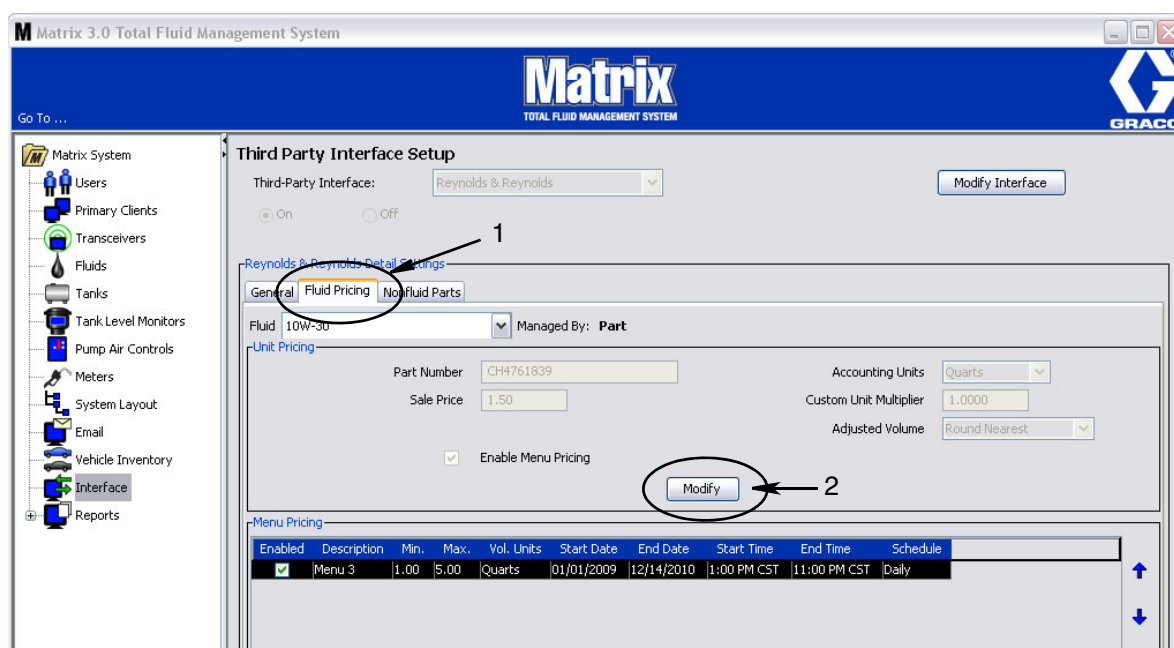

FIG. 171 Reynolds & Reynolds Fluid Pricing Tab
2. Click the **Modify Button** (FIG. 171) to display the unit pricing configuration dialog box.
1. Select a specific fluid from the Fluid drop down box and then click the **Add New** button (FIG. 171, page 133) on the Fluid Pricing Tab.